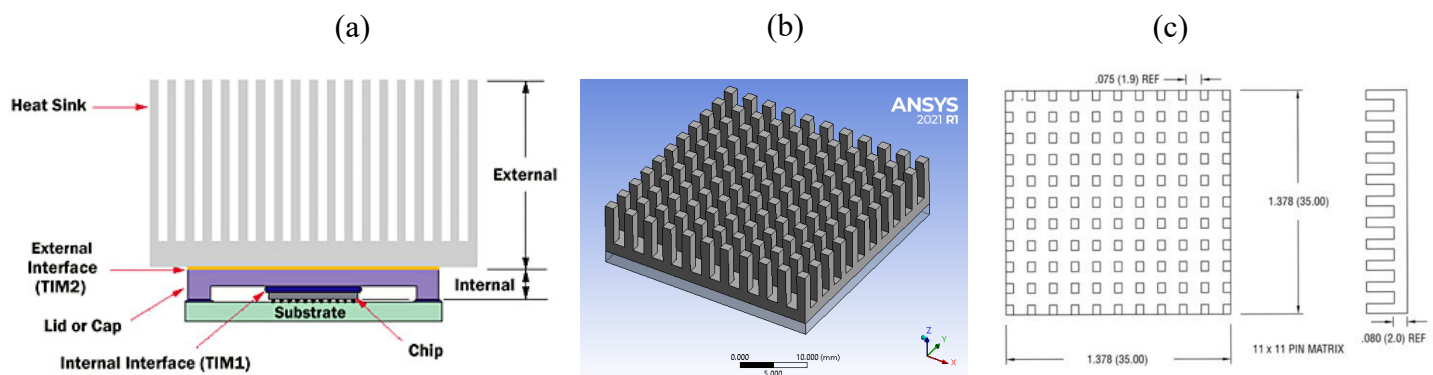

Figure 1. (a) A typical computer chip packaging with cooling solutions, (b) a simplified model, and (c) the dimension of the heat sink.
- Create a CPU/Heat sink model in ANSYS (See Figure 1(b) &(c)).